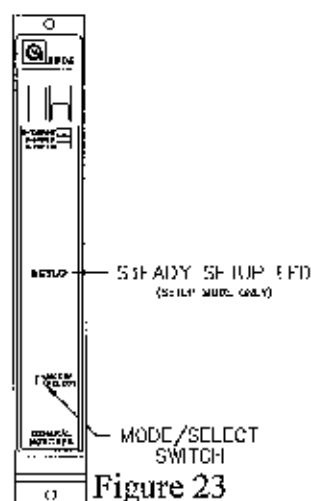

Figure 23
- **This option applies to the Setup Mode only:** If the password option is disabled, or after the correct password has been entered, the display will indicate **In** for five seconds (figure 23). Pressing the Mode/Select switch while **In** is displayed will cause the unit to enter the Inhibit mode by inhibiting the alarm outputs. After the unit has entered the Inhibit mode, the Model 2602 will return to normal operation. If it is desired to enter the Setup Mode, do not press the Mode/Select switch for the five seconds that **In** is displayed.